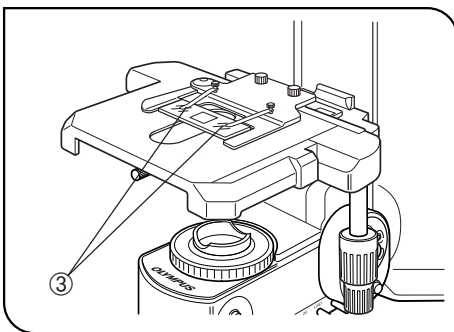

Fig. 19
Adsorption of immersion oil can cause the specimen to drift. In such cases, it is recommended to use the optional BH2-SCB-3 specimen clip ③ for oil immersion objectives. (Fig. 19)